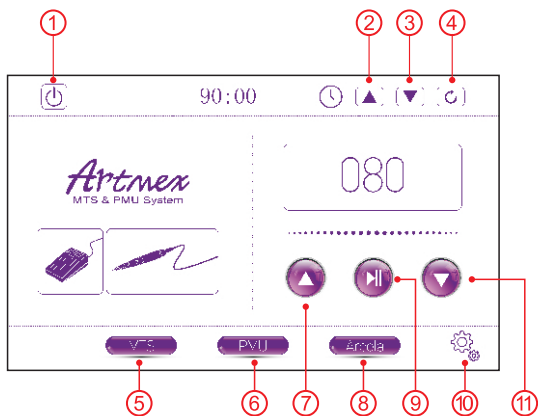

Fig 8
4.Click the interface(Fig 7) to enter interface as(Fig 8)